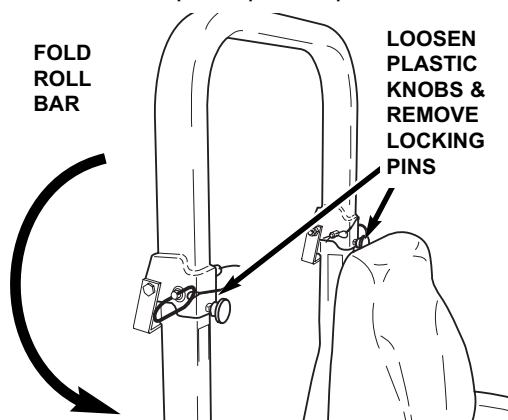

FIGURE 3.14
2. Loosen plastic knobs and remove locking pins. See Figure 3.14.